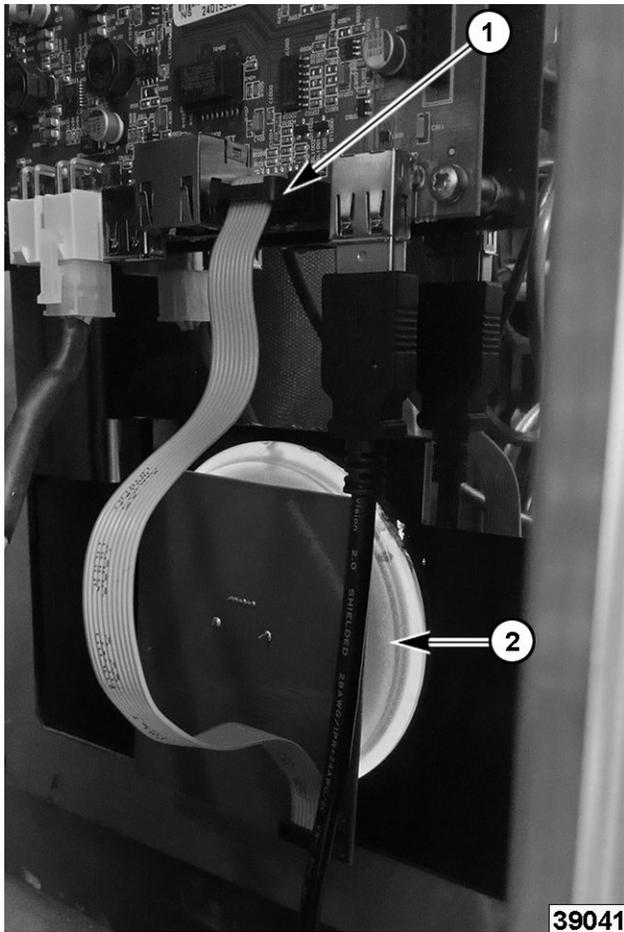

Fig. 18
5. From the backside of control panel disconnect encoder wiring (1, Fig. 18) from board.